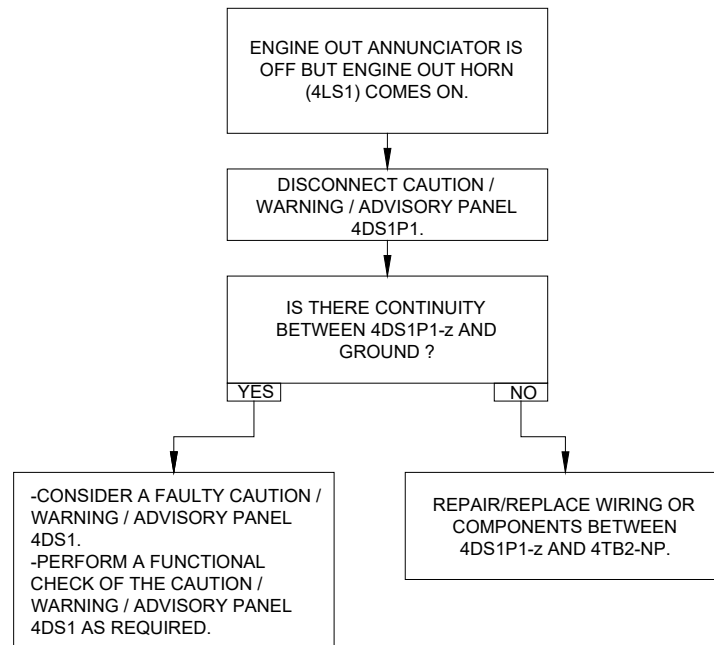

Figure 96-84: ENGINE OUT Annunciator and Warning Horn Circuit – Trouble No. 2
- If the ENGINE OUT annunciator stays off and the engine out warning horn (4LS1) come on, refer to Trouble No. 2 (Figure 96-84).